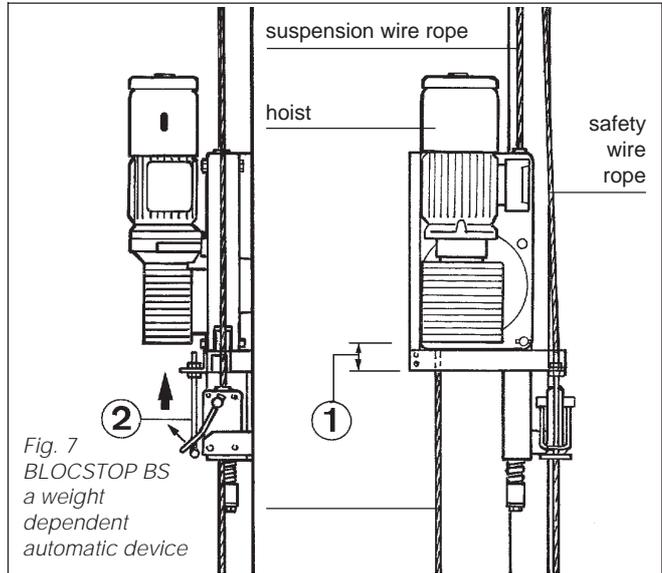

Fig. 7
The hoist is not rigidly fixed in the cradle. It initially slides upwards a short distance in a guiding device before lifting the load. The effect of this movement (1) is to raise the release lever (2) of the rigidly fixed BLOCSTOP (Fig. 7).